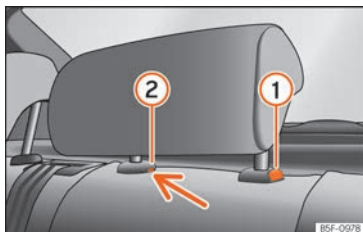

Fig. 142 Rear centre head restraint: release point.
- Press button ① » **Fig. 142**, while simultaneously pressing on the security hole ② » **Fig. 142** with a flat screwdriver a maximum of 5 mm wide, and remove the head restraint.